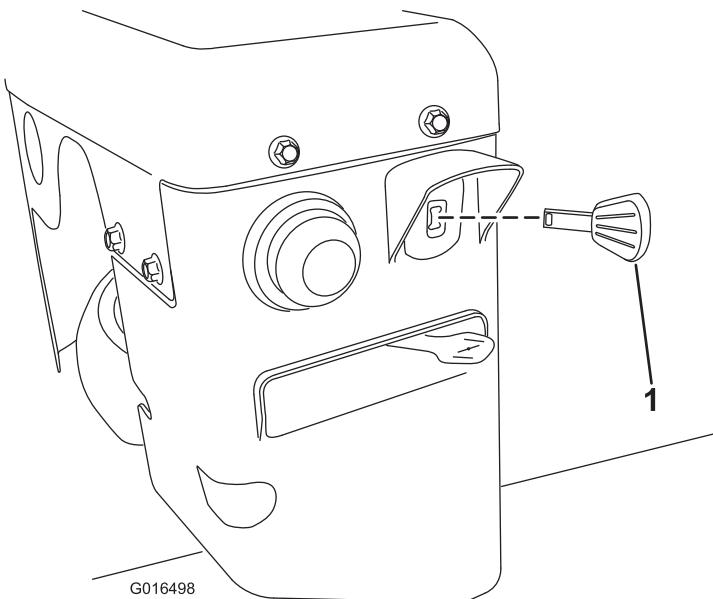

Figure 21
3. Insert the ignition key all the way in (Figure 21).